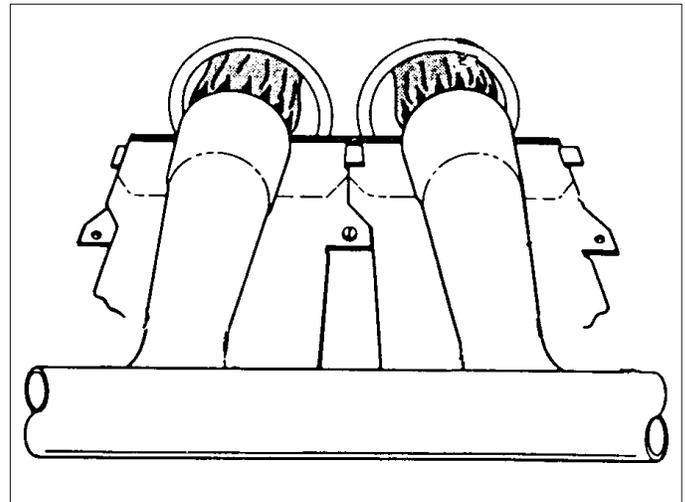

Figure 2. Burner Inspection
1. Carefully reinstall the gas manifold assembly to the burner box with the four (4) fasteners removed earlier.
2. After installing the manifold assembly to the burner box, inspect the alignment of the burners with the heat exchanger tubes. The center of the burners should be aligned with the center of the tubes. See Figure 2.
7. After the flame ignites, visually inspect the burner assembly to ensure that the flame is drawn directly into the center of the heat exchanger tube, as shown in Figure 2. The end of the flame will be out of sight